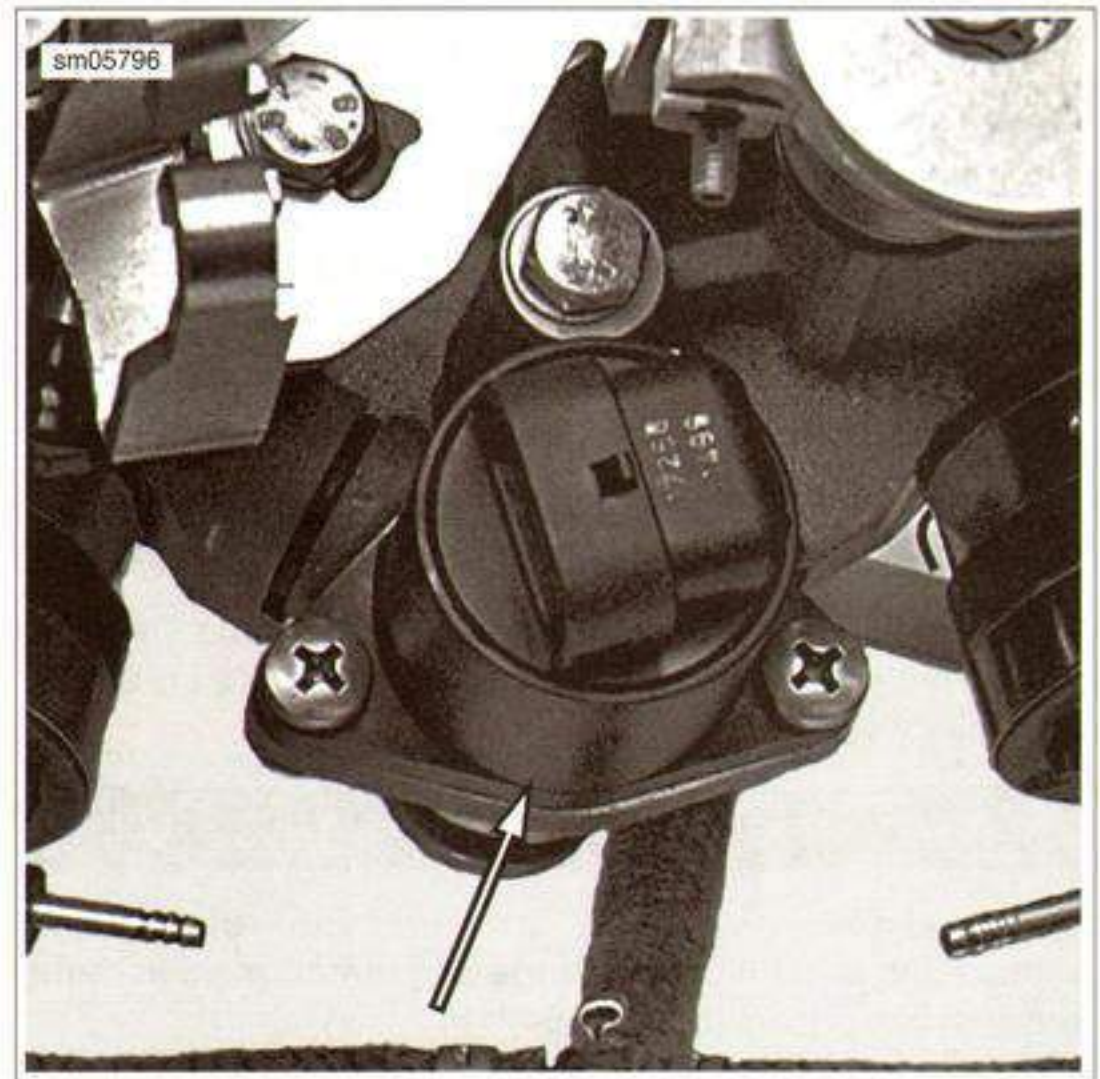

Figure 4-25. IAC on Throttle Body
5. See Figure 4-25. Remove the IAC.